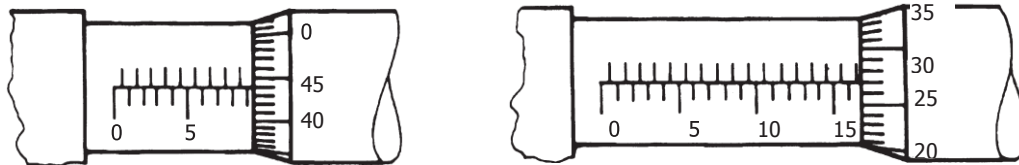

Figure Q3b
- iii) Indicate the readings given by the measuring instruments shown in Fig Q3b (3 marks)